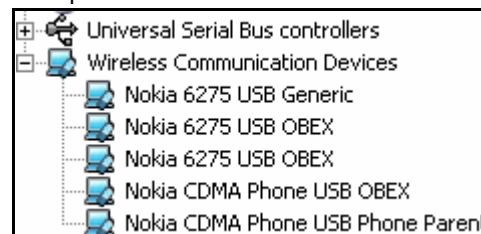
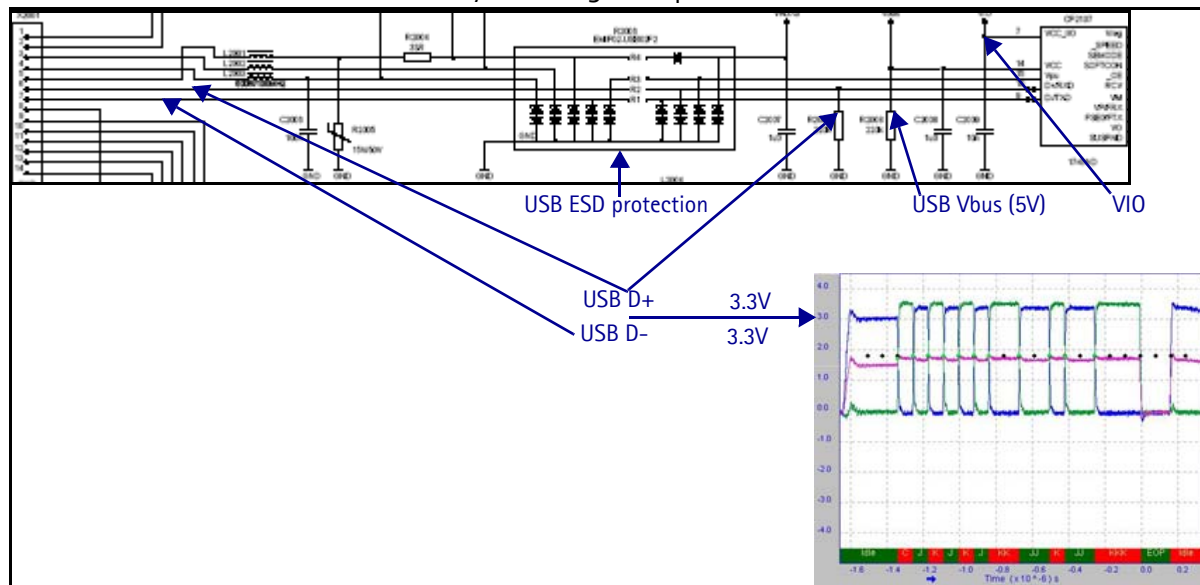

Figure 29: PC Device Manager
Figure 30: USB connections and chart
When troubleshooting the USB, refer to Figure 29 and Figure 30 and use the following procedure to check these points:
2. Use the Windows Device Manager to see if the mobile terminal is recognized as a USB device. You should see something similar to Figure 29.